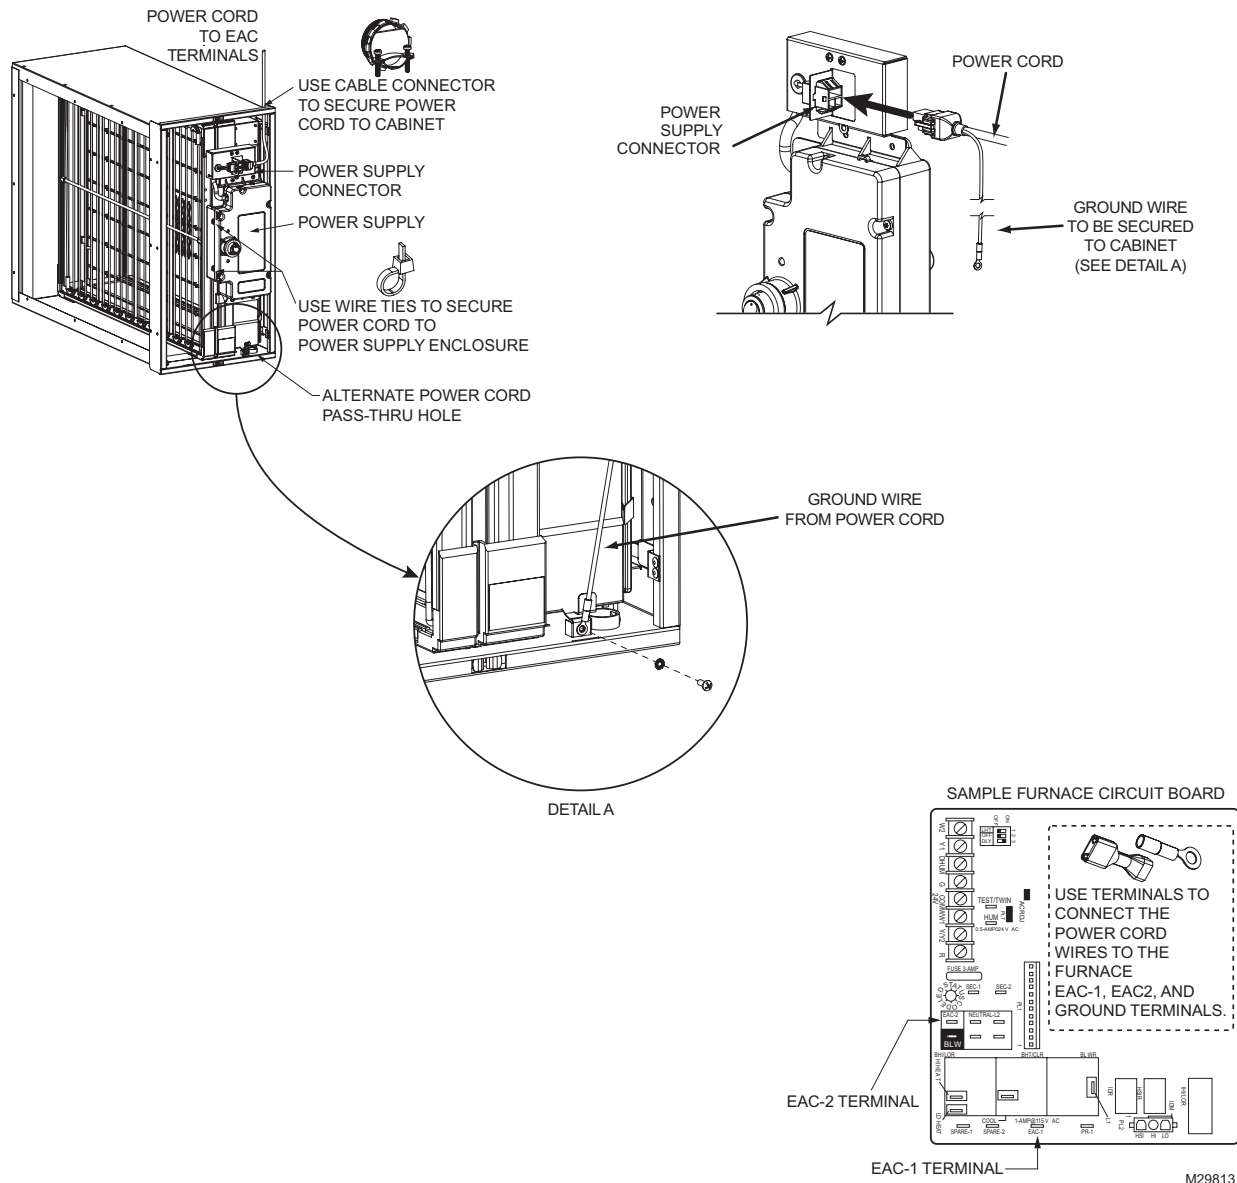

Fig. 15. Electrical connections.
- Connect the power cord to the power supply connector (see Fig. 15).
- Secure the power cord ground wire to the ground terminal on the cabinet using the screw provided in the ground terminal (see Fig 15)
Models 1625/2025: Unplug the power cord from the enhancement module (see Fig. 15 on page 17).
Models 1625/2025: Reconnect the power cord (see Fig. 15 on page 17).